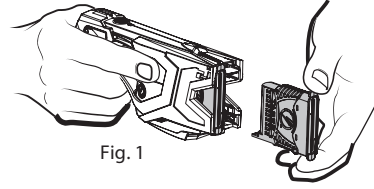

Fig. 1
- 1 Inspect the battery pack contacts to confirm they are clean and free of damage (Fig.1).
- 4 Keeping your hand away from the front of the cartridge, place the cartridge into the cartridge bay until an audible click is heard (Fig.1). Note the position of the tab on the bottom of the cartridge; this side of the cartridge goes in the bottom of the X2 cartridge bay.